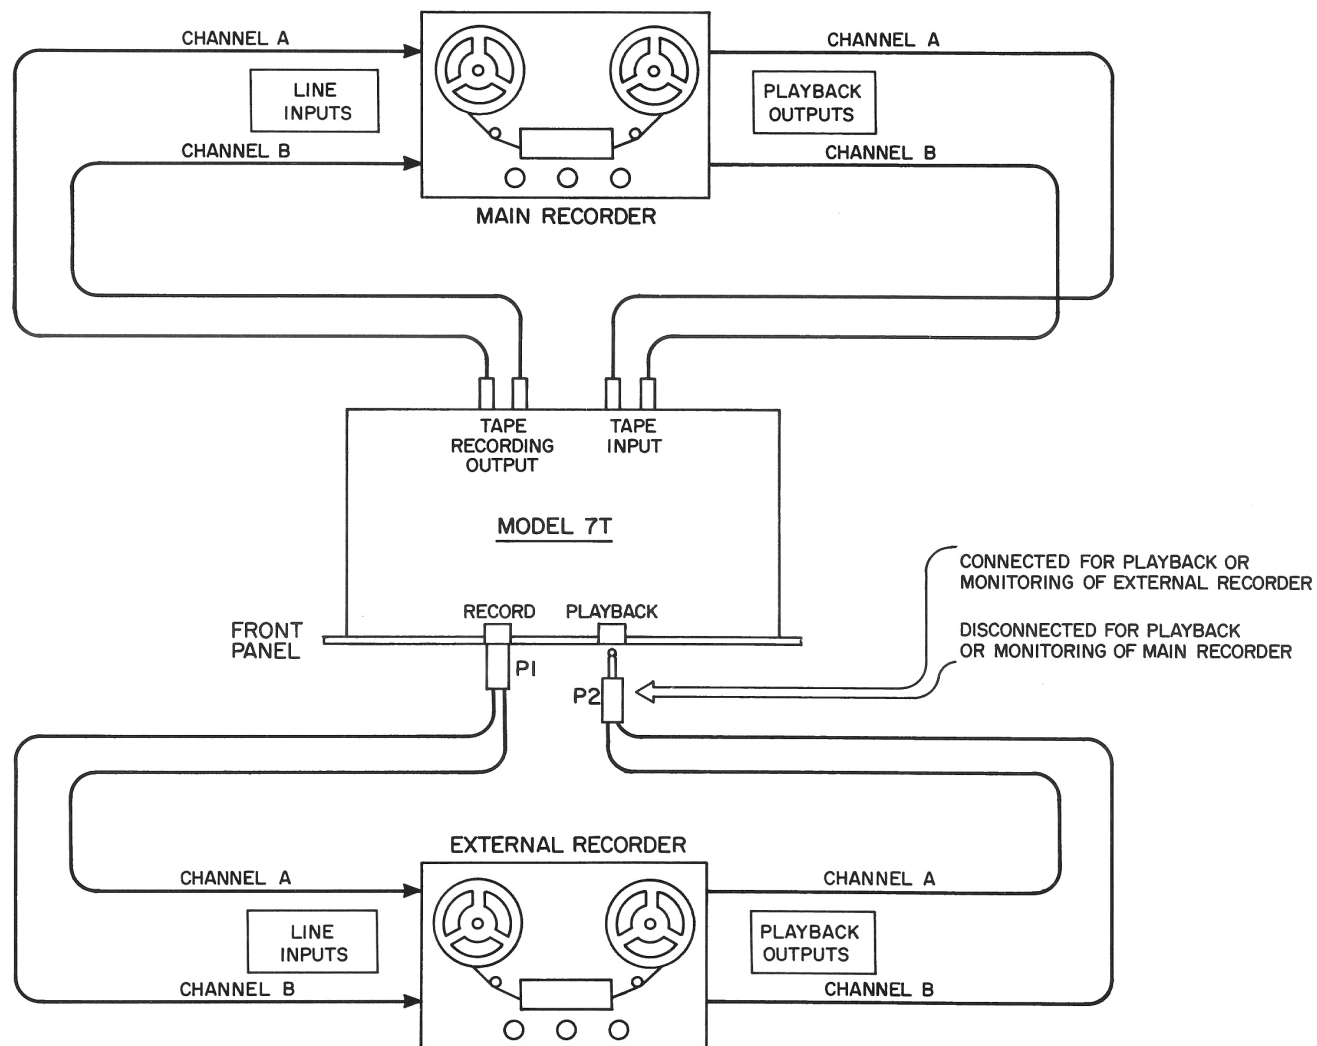

Figure 4. General Arrangement of Two Tape Recorders with Model 7T
As you may have gathered from the previous description of the input/output and control facilities of the 7T, there are numerous ways to connect and operate tape recorders with your system. To avoid confusion, in the following discussion, a tape recorder connected to the rear panel facilities of the 7T will be referred to as the “main” recorder; a separate recorder connected to the front panel jacks will be referred to as the “external” recorder. This general arrangement is shown pictorially in Figure 4.
**Playback** To listen to a previously made recording, place the **TAPE FUNCTIONS** switch in the **PLAYBACK** position and put the recorder into the “playback” mode of operation. When playing back a tape on the external recorder, the recorder’s playback outputs (plug P2 in Figure 4) should be connected to the **PLAYBACK** jack on the front panel. When playing back a tape on the main recorder, make sure nothing is plugged into the **PLAYBACK** jack, otherwise the main recorder’s playback outputs will be internally disconnected in the 7T.
You can make two recordings at the same time by connecting two tape recorders to the 7T, as shown in Figure 4. To monitor the external recorder, plug the recorder’s playback output (plug P2) into the **PLAYBACK** jack, and place the **TAPE FUNCTIONS** switch in the **TAPE PLAY** position. To monitor the main recorder, pull plug P2 out of the **PLAYBACK** jack and place the **TAPE FUNCTIONS** switch in the **TAPE PLAY** position.
With two tape recorders connected to the 7T as shown in Figure 4, you can make a con-
editing is illustrated in Figure 4. To copy from the main recorder to the external recorder: